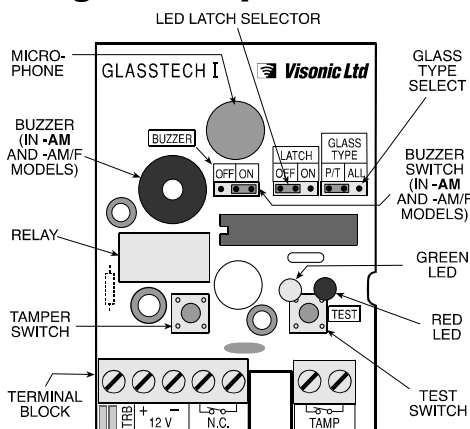

Figure 4. Printed Circuit Board Layout
- C.** Insert a screwdriver blade into the slot at the right side of the PCB (see Figure 4) and dislodge the printed circuit board from the right-side retaining tab. Remove the printed circuit board and put it aside carefully.
3.7 Setting the Jumper Links (Fig. 4)